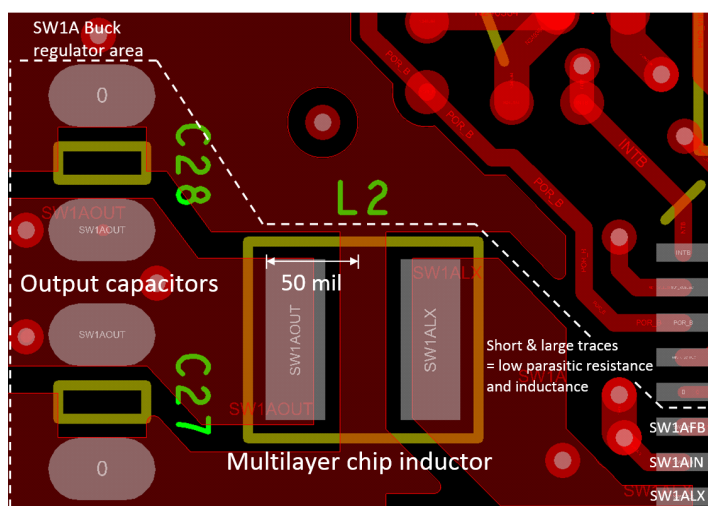
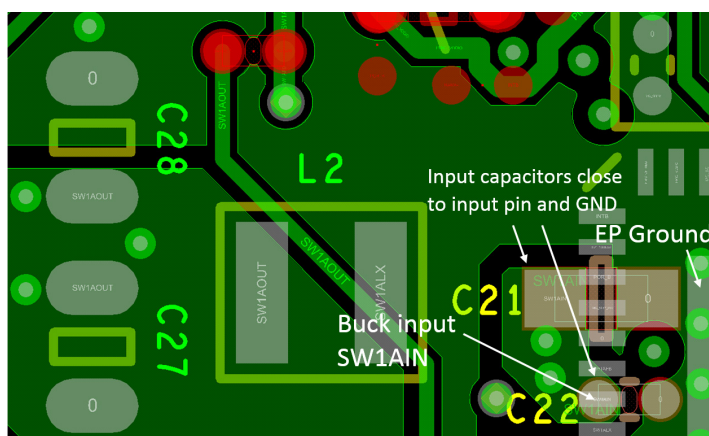

Figure 4. SW1A Layout - Top Layer Components + Top Silkscreen
Figure 5. SW1A Layout - Top + Bottom Layer Components and Silkscreen
The top and bottom MOSFETs are integrated within the package in the buck regulators of the PF3000. Placement of the input capacitor close to the SWxIN pin and the exposed pad (EP) is critical. Figure 4 and Figure 5 show an example layout for the buck regulators.